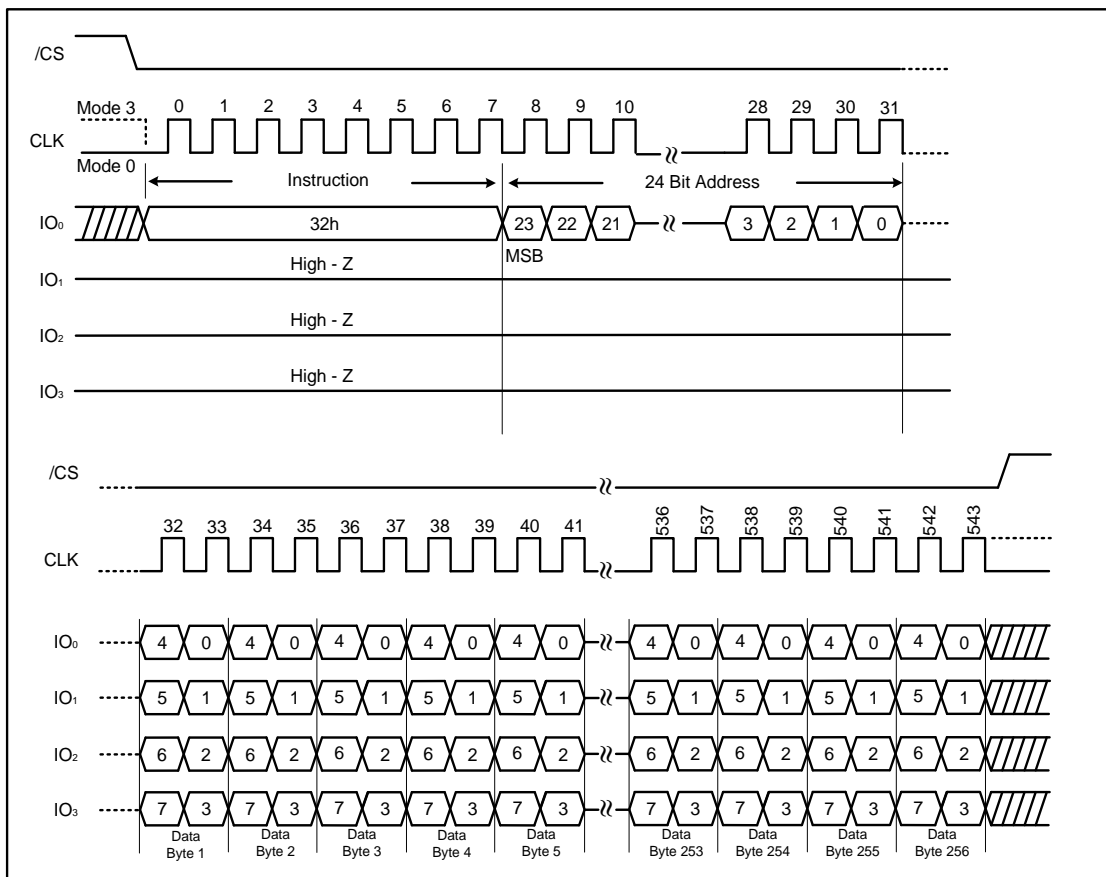

Figure 20. Quad Input Page Program Instruction (SPI Mode only)
To use Quad Input Page Program the Quad Enable (QE) bit in Status Register-2 must be set to 1. A Write Enable instruction must be executed before the device will accept the Quad Input Page Program instruction (Status Register-1, WEL=1). The instruction is initiated by driving the /CS pin low then shifting the instruction code “32h” followed by a 24-bit address (A23-A0) and at least one data byte, into the IO pins. The /CS pin must be held low for the entire length of the instruction while data is being sent to the device. All other Page functions of Quad Input Page Program are identical to standard Page Program. The Quad Input Page Program instruction sequence is shown in Figure 20.